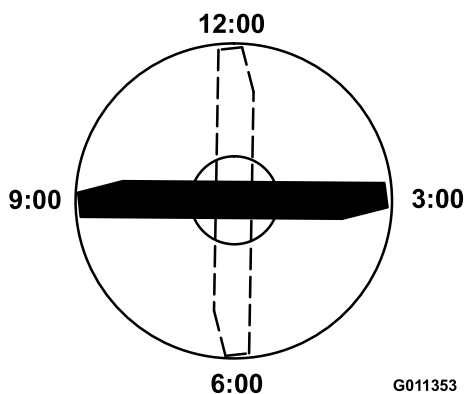

Figure 73
4. Position the cutting edge of the marked end of the blade at 12 o'clock (straight ahead in the direction of mowing) (Figure 73) and measure height from table to cutting edge of blade.
5. Rotate the marked end of the blade to the 3 and 9 o'clock positions (Figure 73) and measure the heights.